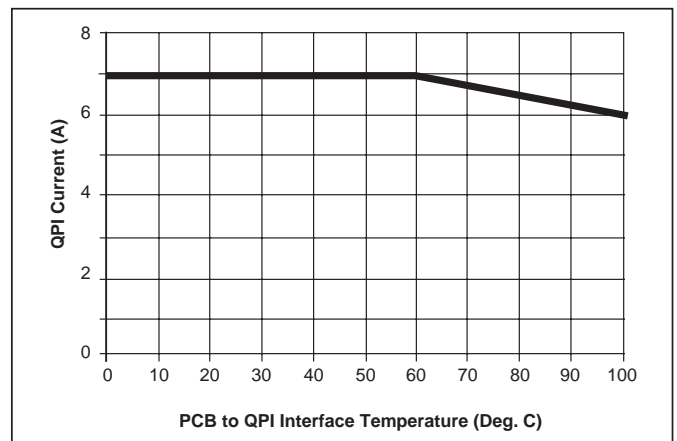

Figure 5 – QPI-3 current derating curve.
- -40° to +100°C PCB temperature (See Fig. 5)
Note 2 - Refer to Figure 5 for current derating curve.
The current derating curve shown in *Figure 5* should be used when the PCB temperature in close proximity of the QPI-3 exceeds 60°C. For example, the QPI-3 will support up to 6.5 A of current or 156 W from a 24 Vdc bus at an 80°C interface temperature. Temperature should be measured at the PCB interface to the QPI-3 on the Bus +/- pads or the QPI+/- pads. Refer to *Figures 9, 10 & 12* for PCB layout recommendation.